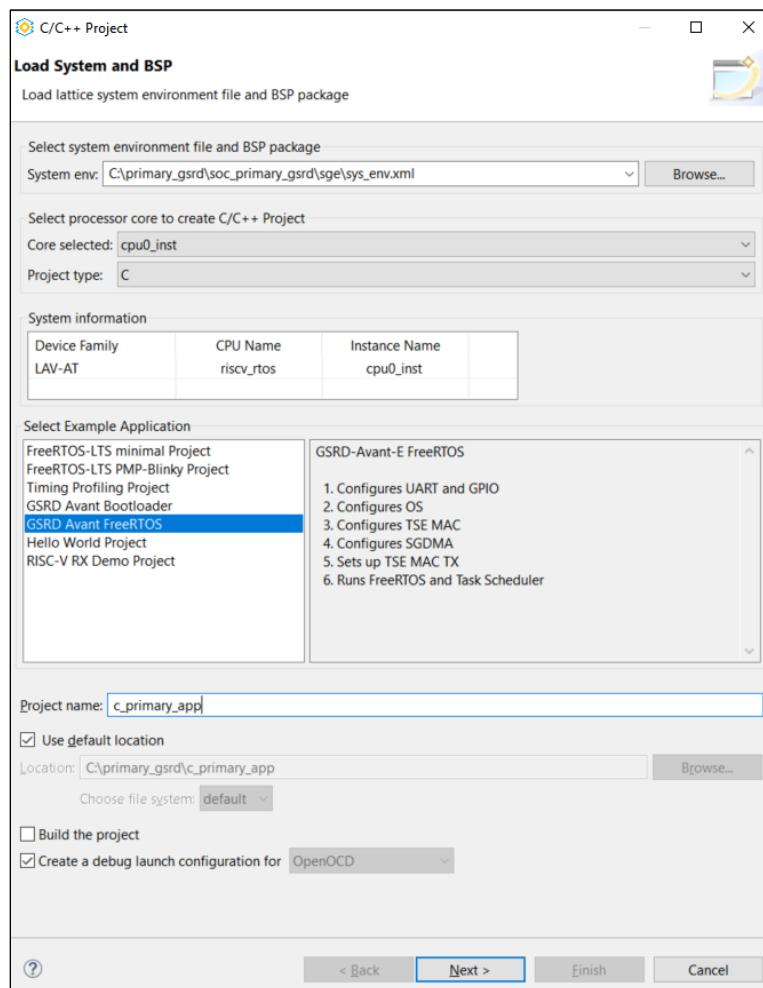

Figure 8.16. FreeRTOS C/C++ Selection
17. From Select Example Application, Select the GSRD Avant FreeRTOS project. Provide the project name as shown in Figure 8.16.